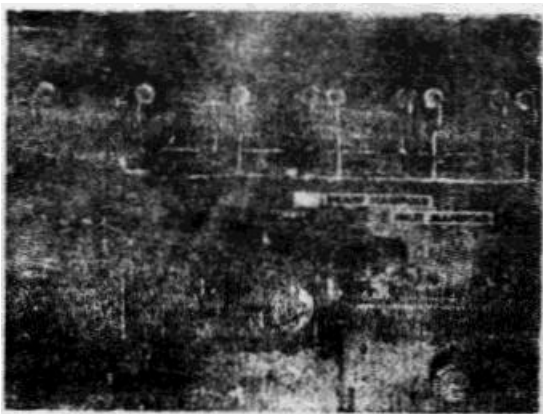

Figure 2-3. Inlet and drain manifolds
5. Screw in the fuel inlet and drain connections about 3 or 4 turns. This is to align the injector body with the fuel connections so the connecting gaskets will seat squarely on the face of the injector. The old inlet connections must be replaced with new connections, see parts books for part numbers. Fig. 2-3.
FUEL MANIFOLDS: Inlet Manifold 1. The injector supply tubes are replaced with a fuel manifold. Fig. 2-3 The connecting point between the two sections also serves as a fuel inlet connection from the fuel pump on all engines except the JS. The JS uses a one-piece manifold with brazed connector. See "Fuel Piping Diagrams."
Drain Manifold: 1. The injector drain manifold is replaced with a new brazed manifold. Fig. 2-3.